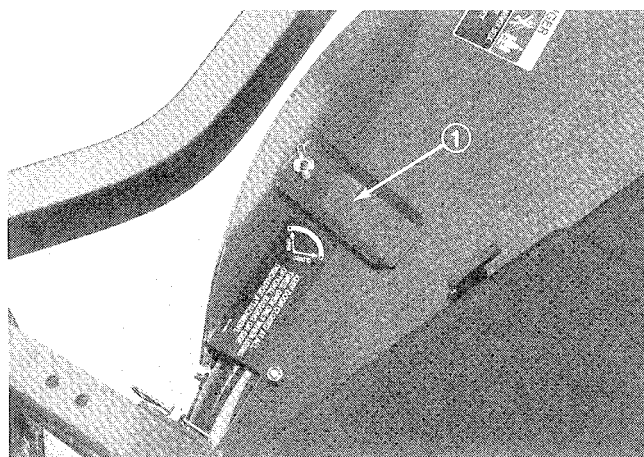

Figure 8
4. Loosen wing nut securing slot cover to top of deck (Fig. 8). Lift cover bump out of slot, rotate cover 180°, pull cover outward to move deck door into the discharge position. Insert cover bump into slot and tighten wing nut.